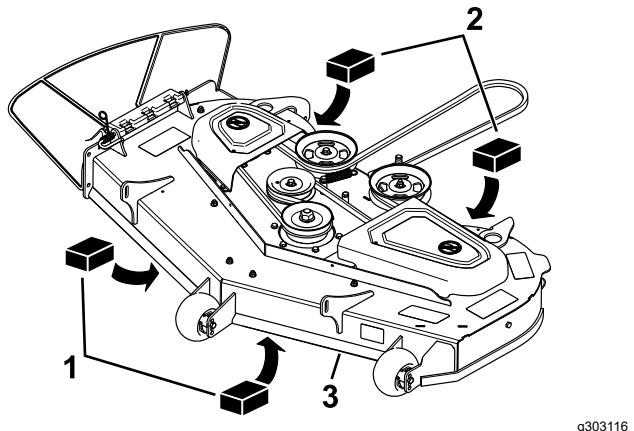

Figure 75
- Place 2 blocks, each having a thickness of 6.6 cm (2-5/8 inches), under each side of the front edge of the deck but not under the anti-scalp roller brackets (Figure 75).
- Place 2 blocks, each having a thickness of 7.3 cm (2-7/8 inches), under the rear edge of the cutting deck skirt, 1 on each side of the cutting deck (Figure 75).